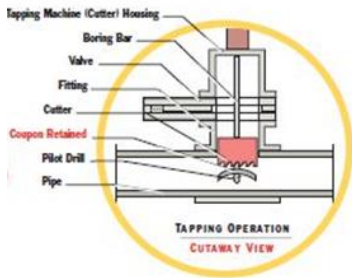
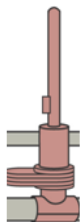

Figure 4 Tapping operation
Figure 5 Plugging machine installed on valve
2. Opening the isolation valve, lowering the cutter through the isolation valve to cut out and extract a pipe coupon (Figure 4), closing the isolation valve, removing the tapping machine and mounting the plugging machine (Figure 5) on the isolation valve.